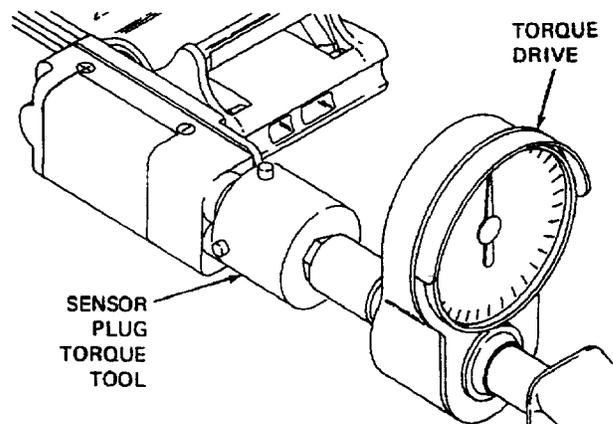

Figure 49. Torque Sensor Plug
- g. Torque sensor plug 20 to 22 in-lbs. using sensor plug torque tool and torque driver (Figure 49). (QA)